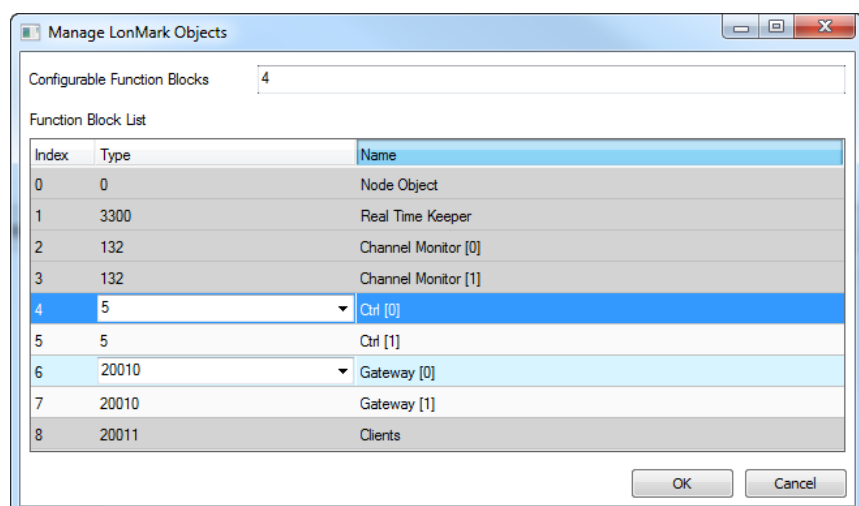

Figure 150: Manage LONMARK Objects.
1. Select the menu **Tools → Manage LonMark Objects ...**. The dialog **Manage LonMark Objects** as shown in Figure 150 appears.